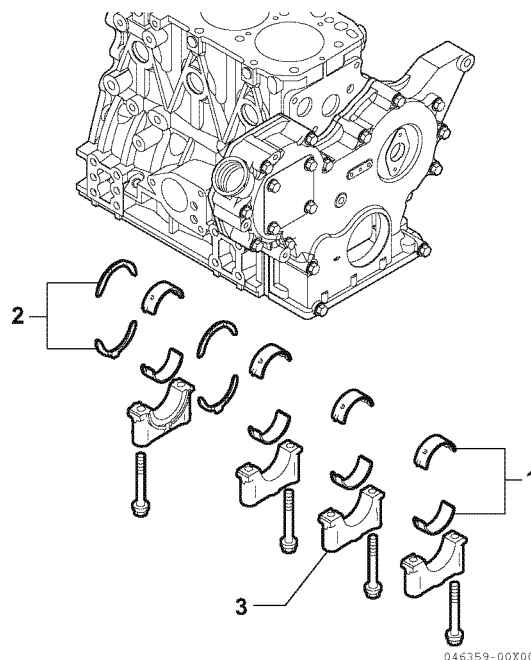

Figure 6-59
4. Remove the main bearing caps (**Figure 6-59, (3)**). Be sure to note the markings on the main bearing caps, or mark them yourself, so they can be reinstalled in the same order as they were removed. Do not remove the bearing inserts at this time.
7. Remove the bearing inserts (Figure 6-59, (1)) and thrust bearings (Figure 6-59, (2)).